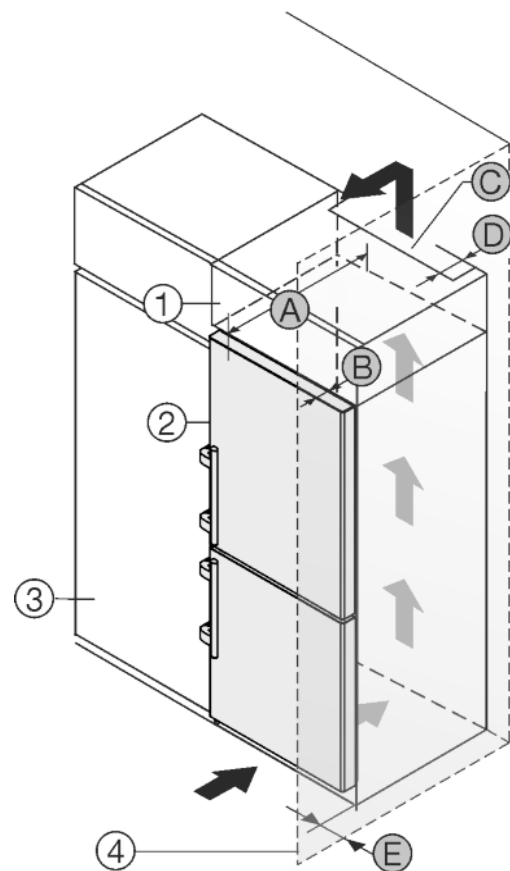

Fig. 43
The appliance can be built into kitchen units. A top cupboard *Fig. 43 (2)* can be added above the appliance in order to bring the appliance *Fig. 43 (1)* up to the height of the fitted kitchen units.
The appliance can be installed right next to the kitchen cabinet *Fig. 43 (3)*. The appliance must stick out by the depth *Fig. 43 (B)* from the front of the cabinet so that the doors can be opened fully. The appliance may protrude further depending on the depth of the kitchen cabinets and whether wall spacers are used.
- There must be a ventilation shaft with the depth *Fig. 43 (D)* at the back of the top cupboard over the entire width of the cupboard.
- The ventilation shaft *Fig. 43 (C)* must be observed under the ceiling.
If the appliance is installed with the hinges next to a wall *Fig. 43 (4)* the distance *Fig. 43 (E)* between the appliance and the wall must be observed. This is how far the handle protrudes when the door is open.